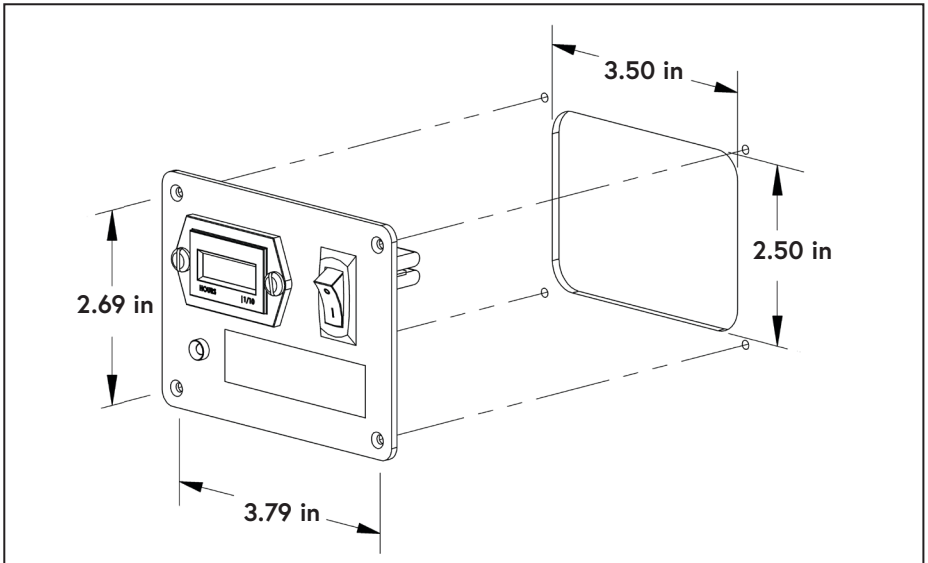

Figure 37 — Interface panel mounting dimensions
- Install the interface panel in a suitable location (Figure 37).